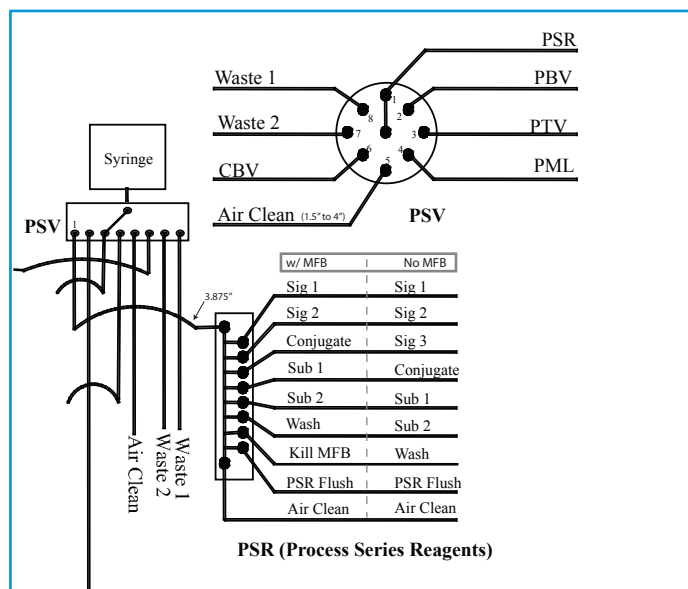

Figure 1-14: PSV and PSR, close up of ESP Fluidics Worksheet
The organization of the flow of reagents through the ESP is shown in the ESP Fluidics Worksheet. Figure 1-14 shows the portion of the worksheet containing information the Processing Syringe (PS) and processing series reagents. The valve leading to the processing syringe is called the Processing Syringe Valve (PSV), and the valve manifold for the reagents is referred to as the PSR (Processing Series Reagents).